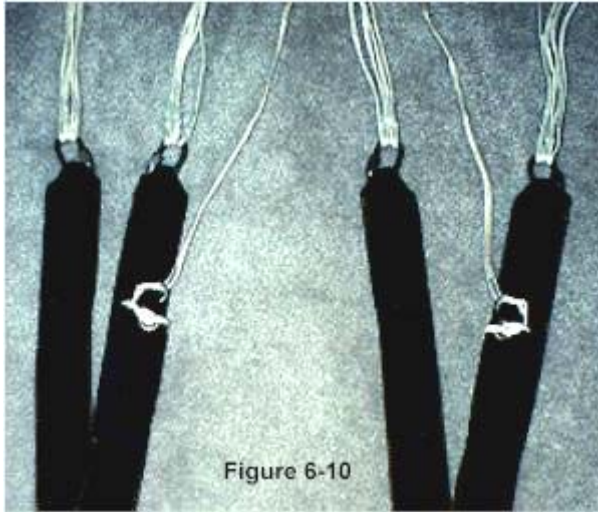

Figure 6-10
Step 8 Set the deployment brakes and stow the excess control line as shown in *Figure 6-10*.